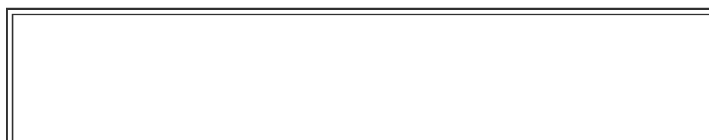

Figure 7: Seat cushion
2. Flip up seat cushion on first passenger seat to allow access to P clamps on forward bar, see Figure 7 below